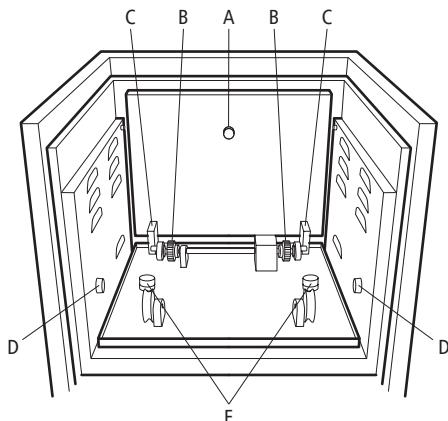

Figure 4: INC-200D-H incubator
- 5.4 Place the rotisserie into the incubator onto the rotation mechanism, ensuring that the serrated bands at either end of the rotisserie locate onto the steel cogs of the rotation mechanism at the rear of the incubator (B on figure 4). The plastic flanges of the rotisserie locate on to the small wheels on the incubator floor. Close the incubator door.
- 6.2 Lift the platform by its handle (A on figure 4) from its storage position, slide it forward and locate it on the rocking mechanism by placing the side pegs of the platform into the retainers (D) on the side walls of the incubator chamber.